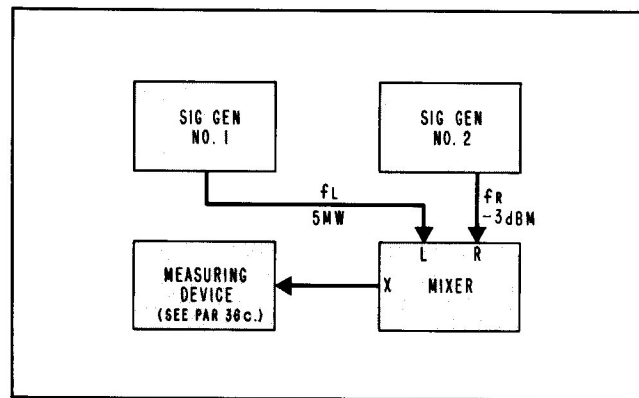

Figure 10. Test Setup — Conversion Loss
2. Set output level to be as shown in Figure 10 using RF Millivoltmeter (HP Model 411A or equivalent) terminated with 50-ohm resistive load.
- b. Make connections as shown in Figure 10.